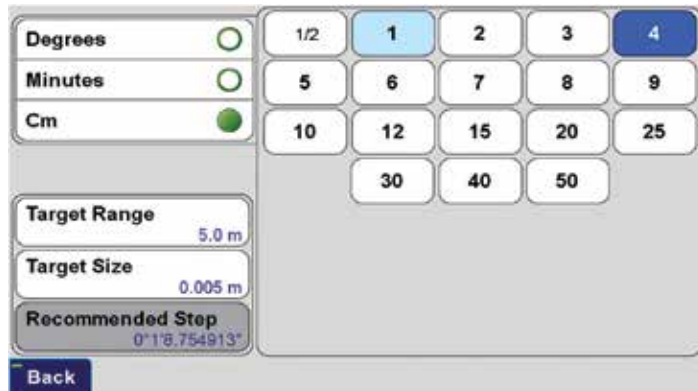

Figure 2
1. There are Left/Right/Up/Down buttons around the screen (“4” and “14”). Each click moves the J-Mate according to the value that you assign to them in the setup screen (“15”), as shown in Figure 2.